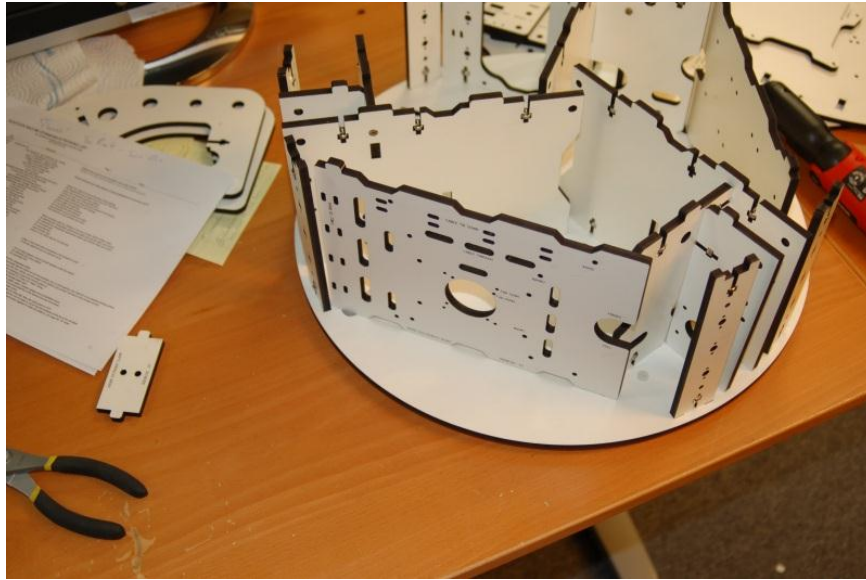

Figure 15 - Cover Brackets and Electronics Door installed.
1.20 – Install Electronics Mount (P/N: 68358) and Support Panel (P/N: 68357). Refer to Fig. 15 above for the location of the Electronics Panel. The door “pin” fits into the hole located next to the X axis T-Slot mount.